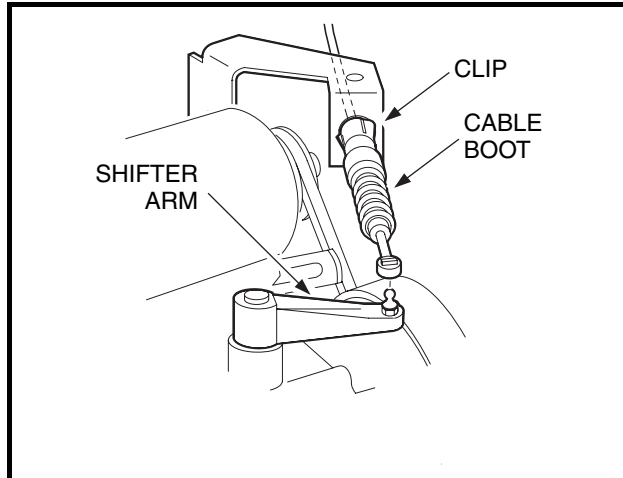

Figure 16-48 Connect Shifter Cable
- 22.4. Install the nut (3), washer (4), and bolt (7) on the Forward/Reverse shifter lever and tighten to 23 in-lb (2.6 N·m).
23. Route shifter cable through the shifter cable bracket. Ensure the cable boot is properly positioned through the bracket. The clips on the boot should hold the cable in place. Connect shifter cable rod end to the shifter arm (**Figure 16-48, Page 16-20**).